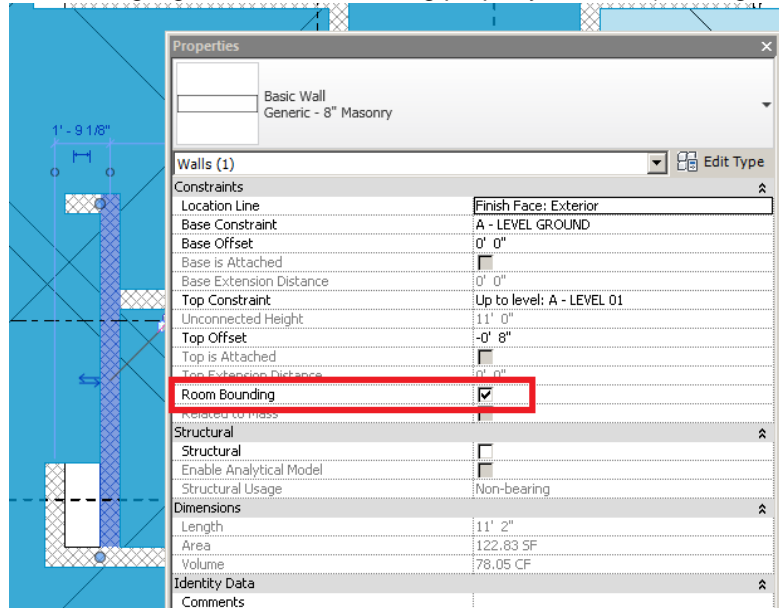

Figure 1.17-1 Highlighted Room Bounding property of a Wall
- Room Bounding property (See Figure 1.17-1 Highlighted Room Bounding property of a Wall) setting of all bounding families **must** be verified before rooms are added to models. The Room Bounding Property is crucial to the process of being able to schedule equipment with the proper room information displayed. See image to the right showing the Room Bounding attribute.